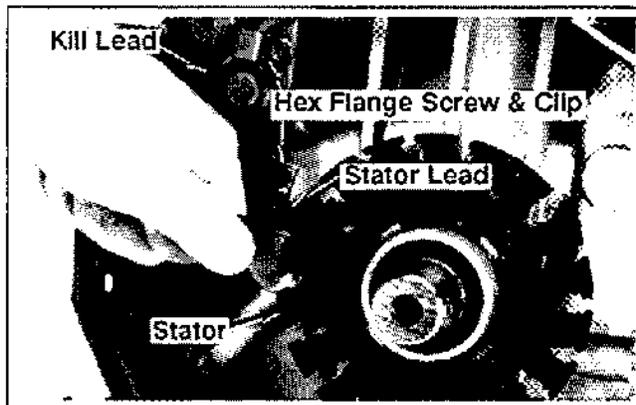

Figure 9-32. Removing Stator.
2. Remove the hex flange screw and clip securing the stator leads to the crankcase. See Figure 9-32.